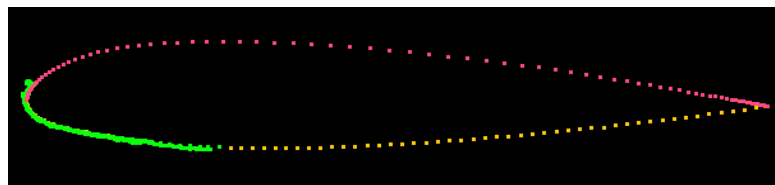

Figure 11. Redistributed points on upper surface of airfoil.
- If you would like to replace the current points with the modified points, press **Apply**. To close the window without making the changes permanent, press **Close**. Pressing **OK** will apply the changes and close the window all at once. Your geometry should now look like that in Figure 11.